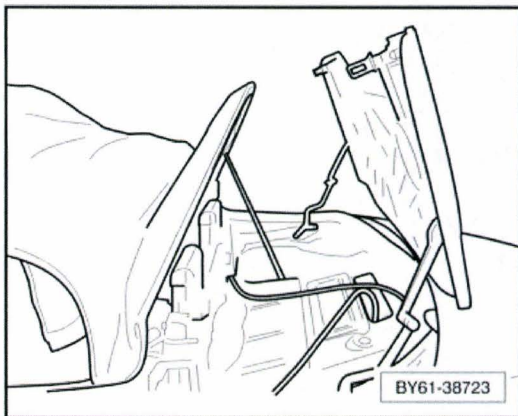

Figure 6
Note: To carry out the following procedures, the power operated roof assembly will have to be positioned partially open in a transient state. With the ignition on any transient roof position will only be maintained for 10 minutes after which a warning will sound prior to the roof assembly gradually folding down as the hydraulic pressure decays. Therefore consideration should be given to supporting the roof system during the following procedure (see Figure 6)
6. With the tonneau cover still held in the vertical position, support the tension bow with a suitable prop taking care not to damage any trim (see figure 6)